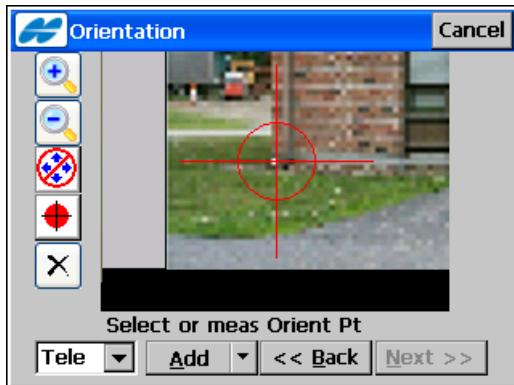

Figure 9-33. Select Orientation Point
- / – enables/disables a pan drag control of the image. When the **Pan** button is disabled, tap on the image to choose the orientation point. The image zooms to this point and displays a crosshair. The position of the crosshair can be adjusted (Figure 9-33)